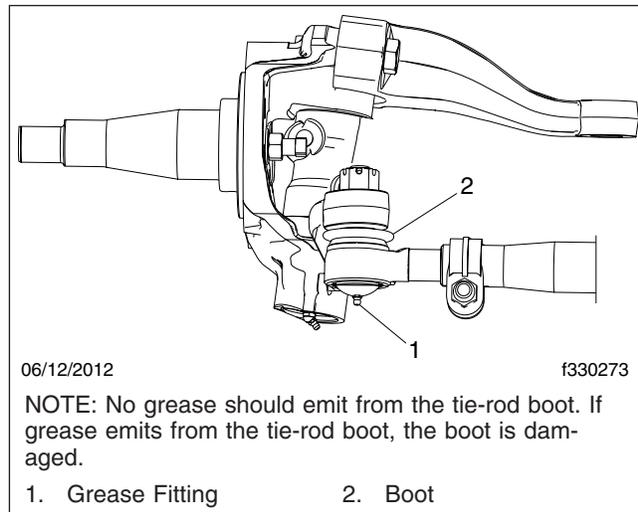

Fig. 4, Grease Fitting and Boot (Detroit axle shown)
1. For any Detroit or Meritor axle that requires lubrication of the tie-rod ends, wipe the grease fittings clean, then pump multipurpose chassis grease, NLGI Grade 1 (6% 12-hydroxy lithium stearate grease) or NLGI Grade 2 (8% 12-hydroxy lithium stearate grease), into the tie-rod ends until all used grease is forced out and fresh grease is seen at the ball stud neck. See **Fig. 4**.